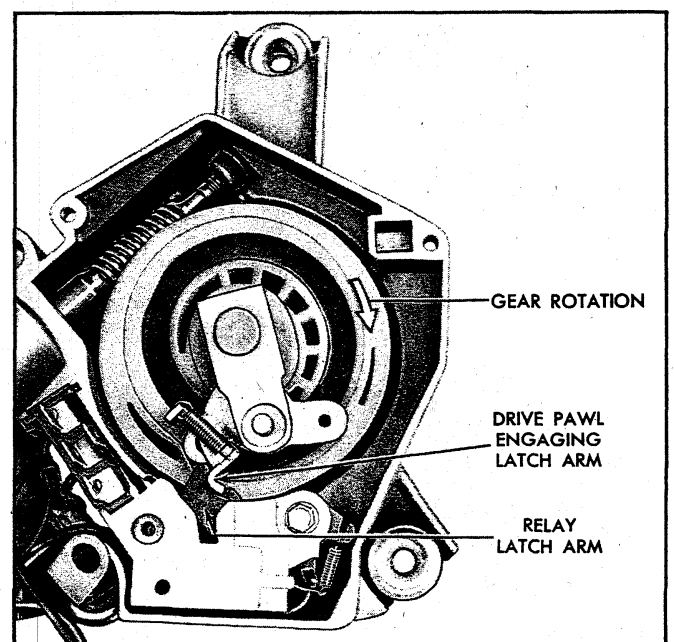

Fig. 80 - Relay Assembly
3. Remove relay-switch attaching screw (fig. 80) and carefully lift the relay-switch assembly out of the gear box. Unsolder leads from switch terminals as required. Refer to Figure when resoldering leads.